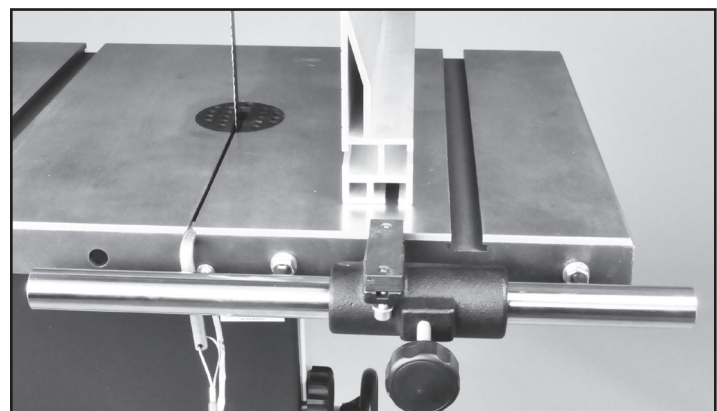

FIGURE 37
2. Unscrew and remove the front fence Guide Rail (#11F) from the front lip of the table. Flip the rail over 180° end-to-end and re-attach it to the right side of the table front edge, through the two pre-bored holes to the right of the blade slot in the table. Fig. 37.
5. Turn the fence around 180° end-to-end and slide it back onto the sliding block. Fig. 37. Once in place, retighten the two hex screws to secure the fence in position on the carrier. Fig. 38.